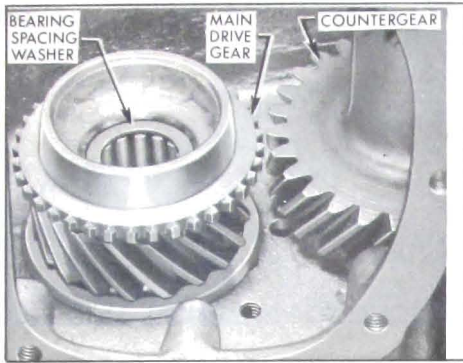

Figure 4-104—Installing Bearing Spacer
27. Install bearing spacing washer. See Figure 4-104.